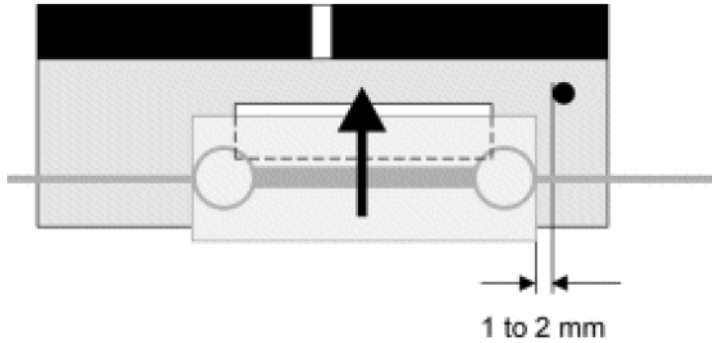

Figure 6-5: Positioning the cartridge for installation.
11. Hold the cartridge above the front positioning pins and about 1-2 mm away from the pin on the right (Figure 6-5).